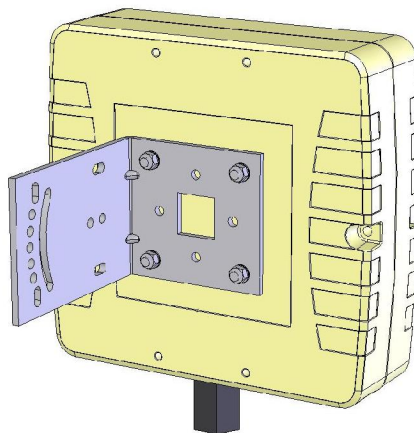

Figure 2. Bracket to enclosure mounting
1. Attach the bracket to the M6 studs protruding from the enclosure using the provided M6 nuts and washers.(figure2)